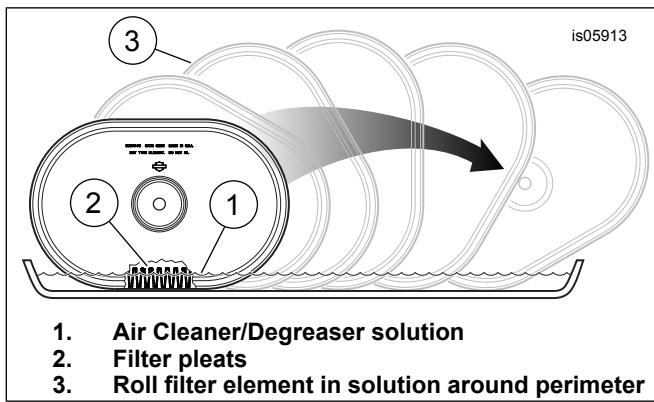

Figure 2. Cleaning the Filter Element
2. Clean the filter element (see Figure 2):
- a. Remove and wash the element by immersing it, on edge, in a shallow pan containing enough Air Cleaner/Degreaser (1) to cover **no more than** three-quarters of the depth of the filter pleats (2), about 9.5 mm (0.375 in). **Do not allow dirty solution to get inside the element.** Carefully "roll" the element in the solution around its perimeter (3) until the entire outer surface of the filter pleats has been soaked.